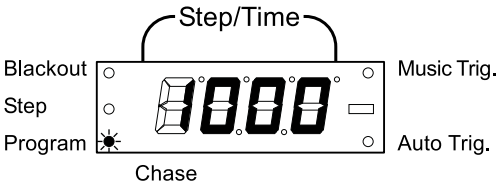

Fig.4
- 1. Press and hold the **[PROGRAM]** button for 3 seconds (fig.4).